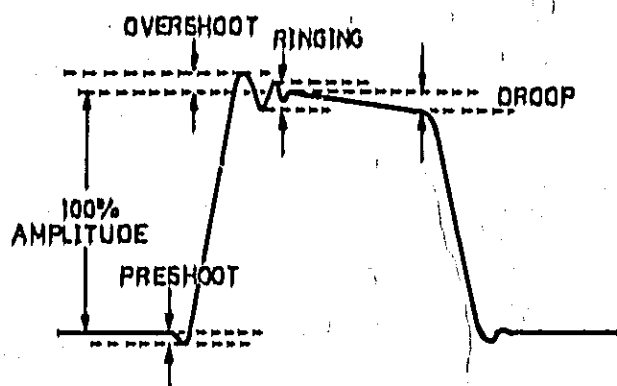

Figure 4-11a.
4. Adjust the timebase of the sampling scope such that one cycle of the displayed signal fills the display. Verify that preshoot, overshoot, ringing and droop comprise less than 10% of pulse amplitude, as illustrated in Figure 4-11a.